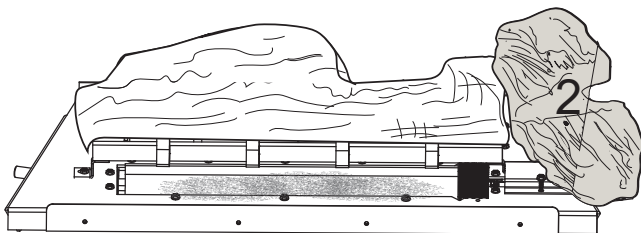

Figure 12 - Log #2 Placement
3. Hold log #2 with the flat surface to the right. Place log #2 to the right side of the burner assembly by positioning the pin locator hole on the bottom of the log over the pin on the right-hand side. See Figure 12.